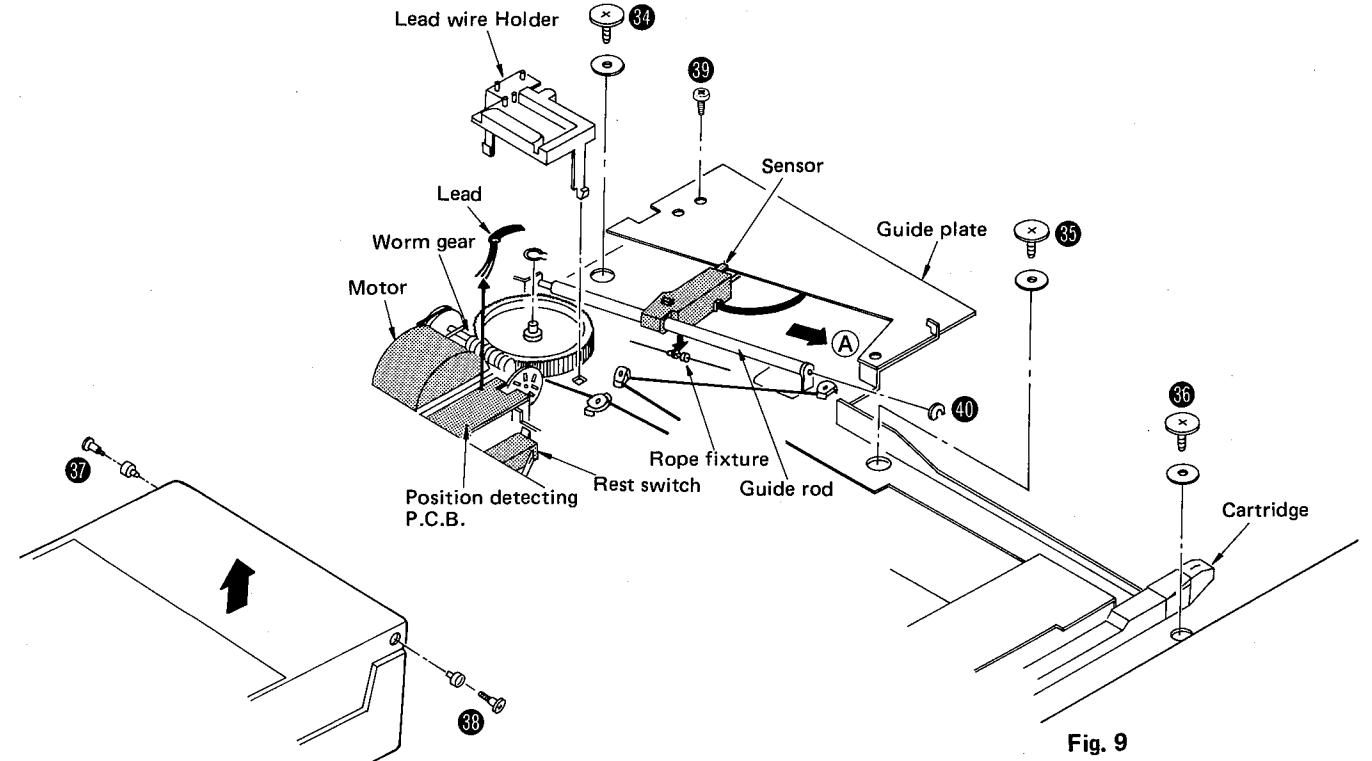

Fig. 9
3. Remove the 3 screws (Fig. 9 : 34 ~ 36) of the dust cover.
3. Remove the screw of the guide plate. (Fig. 9 : 39)
4. Remove the rope fixture of the sensor. (Fig. 9)
5. Remove the guide rod fitting clip 40 and remove the guide rod. (Fig. 9)
6. Pull out the sensor in the direction of the arrow (A). (Fig. 9)